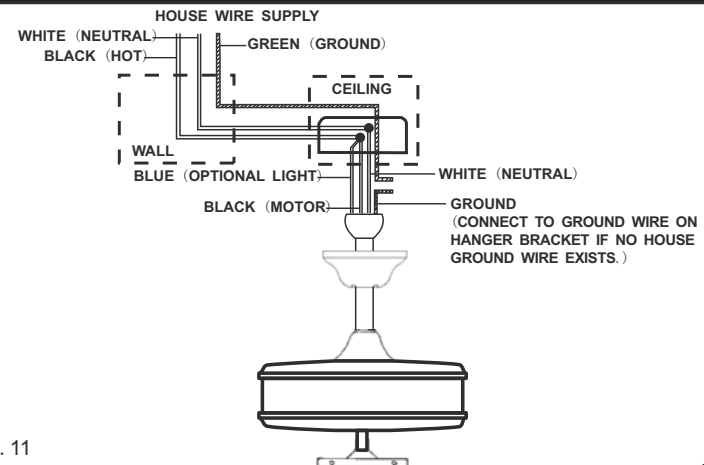

Fig. 11
Step 1. Connect the black (hot) wire from the ceiling to the black and the blue wires from the fan. Connect the white (Neutral) wire from the ceiling to the white wire from the fan. (Fig 11)
Step 2. If your outlet has a ground wire (Green or Bare Copper) connect the fan ground wires (from hanger ball and hanger bracket) to it; otherwise connect the fan ground wire wires from the hanger ball and hanger bracket together. (Fig. 11)